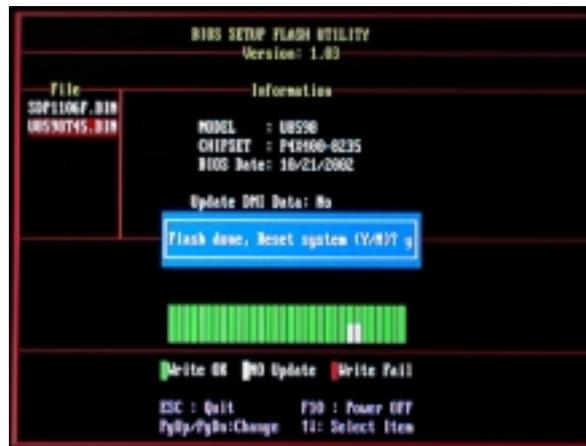

Figure 6
10. A message "Flash done, Restart System (Y/N)" will appear if the system was successfully updated the BIOS, refer to Figure 6.